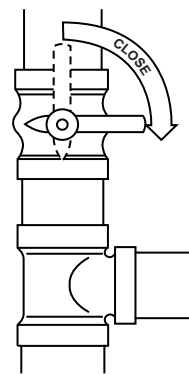

Fig. 17 – Close the External Manual Valve
- Close the external manual gas valve (see Fig. 17).